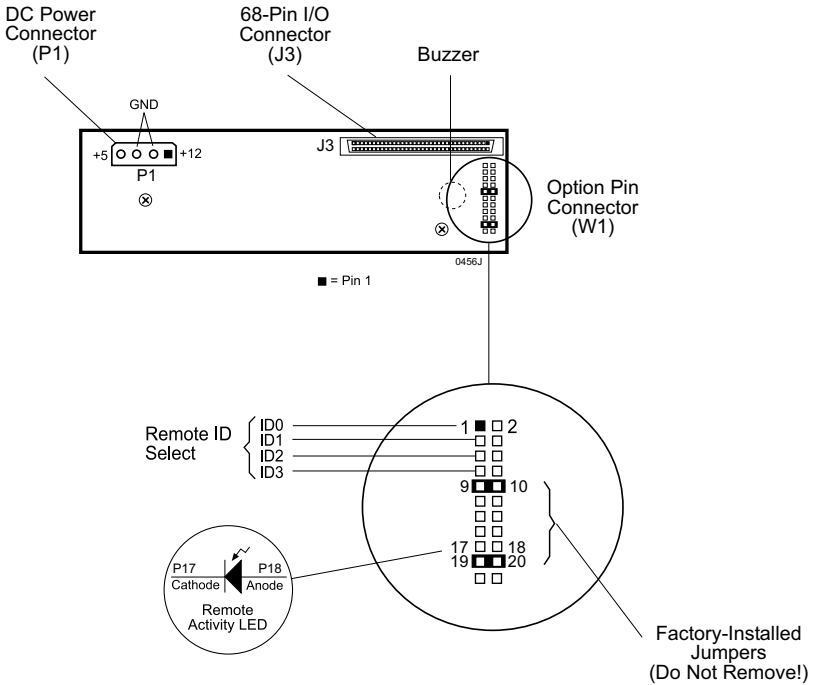

Figure 5: Receiving Frame Motherboard (Rear View)
(Figure 5)
6. Connect the I/O cable from the host adapter to the receiving frame. The Pin 1 indicator on the cable must be properly aligned. Refer to Figure 5 for the correct Pin 1 location on connector J3.
7. Connect the power cable from the DC power supply in the computer or expansion chassis to the power connector on the Ultra320 DE100 receiving frame. Refer to Figure 5 for the receiving frame power connector location.